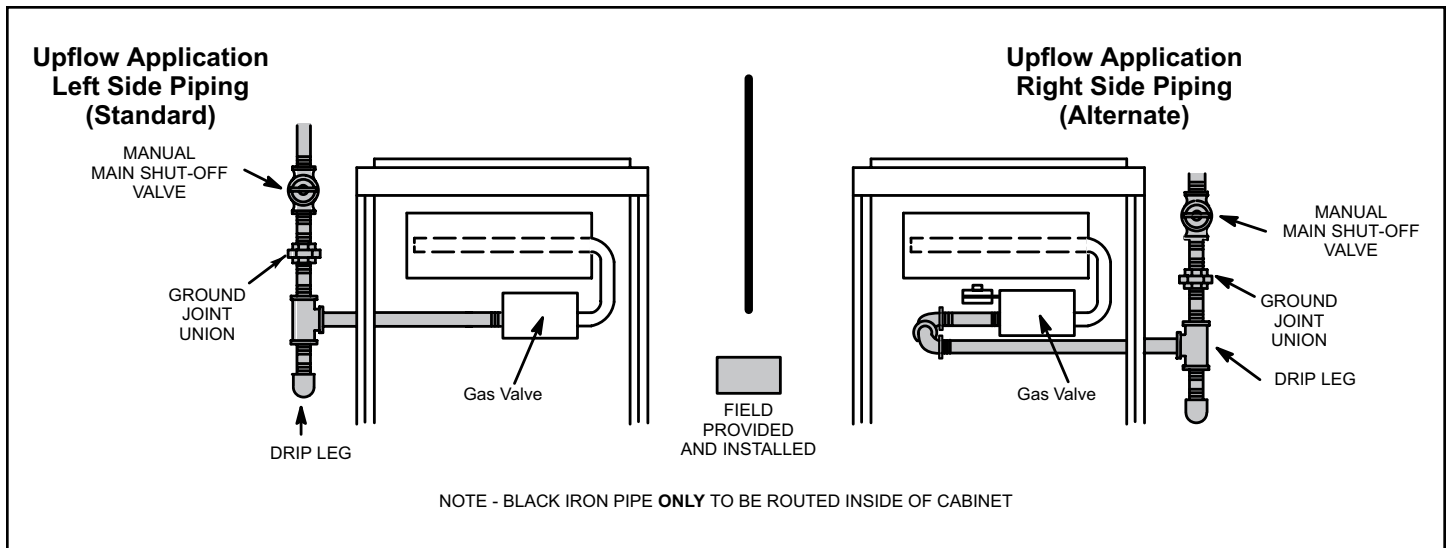
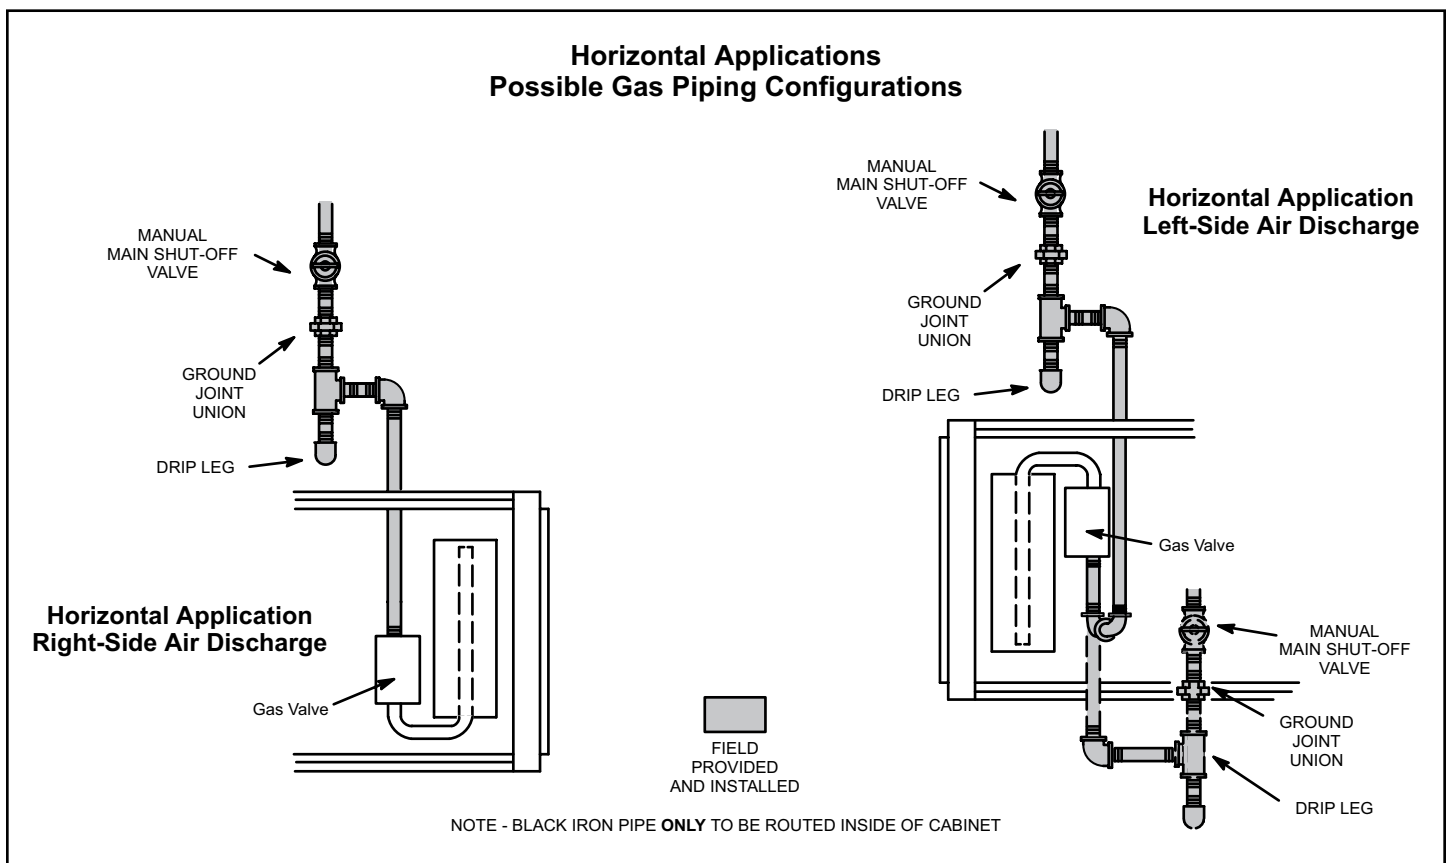

Figure 61. Gas Piping Upflow Configuration
Figure 62. Gas Piping Horizontal Configuration
1. Gas piping may be routed into the unit through either the left or right hand side. Supply piping enters into the gas valve from the side of the valve as shown in Figure 61 and Figure 62.
3. Gas piping must not run in or through air ducts, clothes chutes, chimneys or gas vents, dumb waiters or elevator shafts. Center gas line through piping hole. Gas line should not touch side of unit. See Figure 61 and Figure 62.